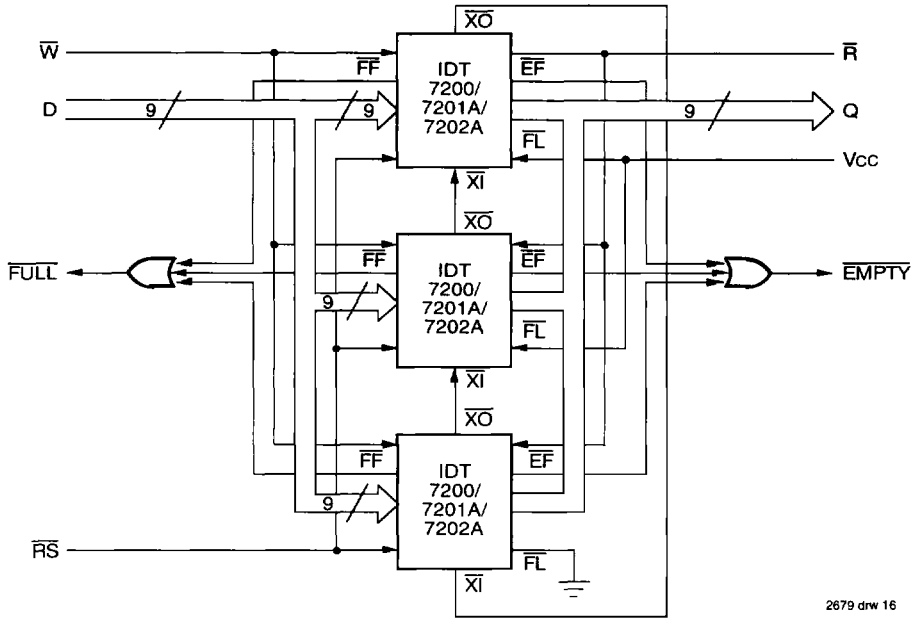

Figure 14. Block Diagram of 768 x 9/1536 x 9/3072 x 9 FIFO Memory (Depth Expansion)
The IDT7200/7201A/7202A can easily be adapted to applications when the requirements are for greater than 256/512/1024 words. Figure 14 demonstrates Depth Expansion using three IDT7200/7201A/7202As. Any depth can be attained by adding additional IDT7200/7201A/7202As. The IDT7200/7201A/7202A operates in the Depth Expansion mode when the following conditions are met:
3. The Expansion Out (\bar{X}_O) pin of each device must be tied to the Expansion In (\bar{X}_I) pin of the next device. See Figure 14.
4. External logic is needed to generate a composite Full Flag (\overline{FF}) and Empty Flag (\overline{EF}). This requires the ORing of all \overline{EF} s and ORing of all \overline{FF} s (i.e. all must be set to generate the correct composite \overline{FF} or \overline{EF}). See Figure 14.
1. Xi is connected to Xi of previous device. See Figure 14. RS = Reset Input, FL/RT = First Load/Retransmit, EF = Empty Flag Output, FF = Flag Full Output, Xi = Expansion Input, HF = Half-Full Flag Output
1. For depth expansion block see section on Depth Expansion and Figure 14.